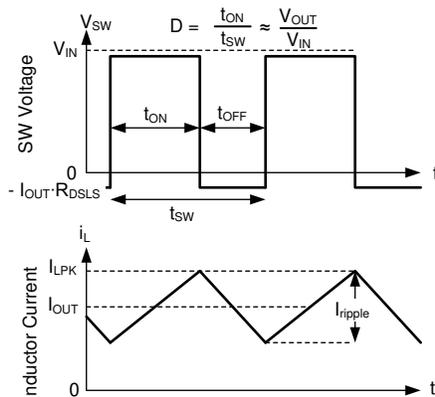

Figure 7-18. SW Voltage and Inductor Current Waveforms in Continuous Conduction Mode (CCM)
The following operating description of the LMQ644xx refers to Functional Block Diagram and the waveforms in 図 7-18. Both supply a regulated output voltage by turning on the internal high-side (HS) and low-side (LS) NMOS switches with varying duty cycle (D). During the HS switch on-time, the SW terminal voltage,  $V_{SW}$ , swings up to approximately  $V_{IN}$ , and the inductor current,  $i_L$ , increases with a linear slope. The HS switch is turned off by